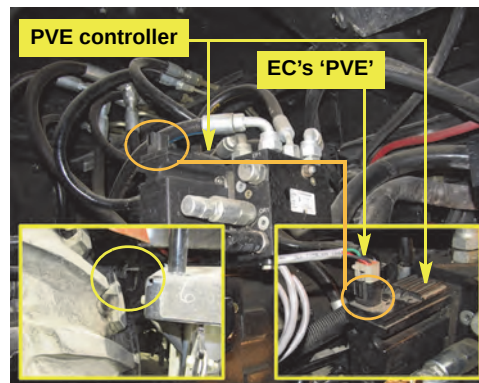

Figure 3d: Steering controller to PVE controller connection
- d. Locate the machine's PVE controller at the PVE block inboard of the front of the right rear tire (Figure 3d and insets). Connect **EC's** branch cable labeled 'PVE' to the machine's PVE controller (Figure 3d right inset).